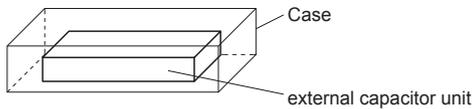

Fig.3.2 Installation example
- There is a possibility that it is not possible to cool enough when the external capacitor unit is used by the sealing up space as showing in Figure 3.2. Please use it after confirming the temperature of point A of Instruction Manual 3.2.